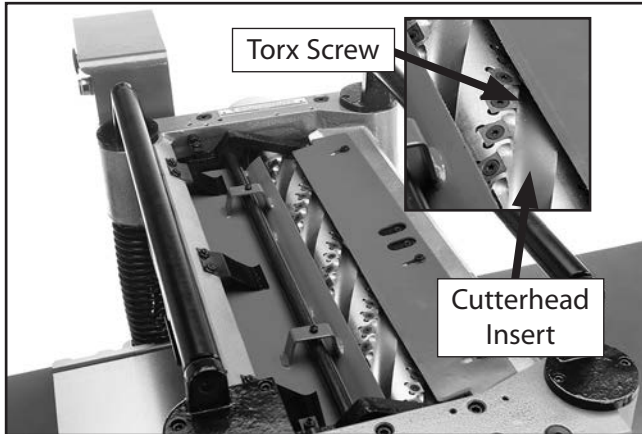

Figure 32. Example of cutterhead inserts and Torx screws (actual machine not shown).
4. Remove any sawdust or debris from head of insert, Torx screw, and surrounding area (see **Figure 32**).